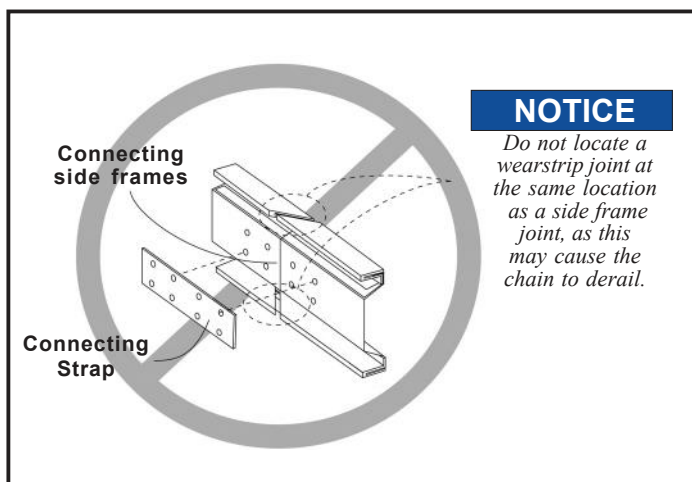
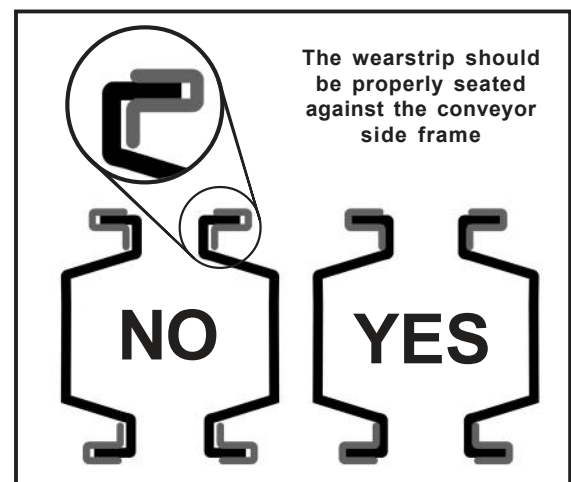

Figure 11: Do not locate wearstrip joint at bed section joint
Figure 12: Ensure wearstrip is correctly seated
**CUT LOCATION:** Wearstrip joints and conveyor bed section joints should never be located at the same spot (*Figure 11*). The wearstrip should span across the side frame joint, and extend beyond the side frame joint by at least 10” (254mm). Always be sure the wearstrip is firmly seated against the side frame as shown (*Figure 12*), especially in horizontal and vertical bend locations.